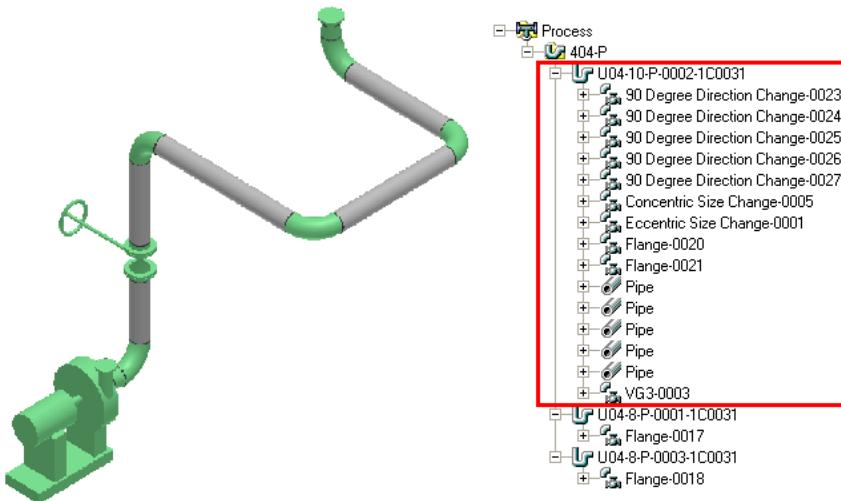

Figure 1.3: Pipe Parts in the System Hierarchy
- **Piping Part:** A piping part is a physical component that comprises a feature and is generally selected by the software. Figure 1.3 shows some examples of pipe parts that represent a section of a piping system. The highlighted portion in the figure shows a section of the workspace explorer containing the hierarchy of the pipe parts.